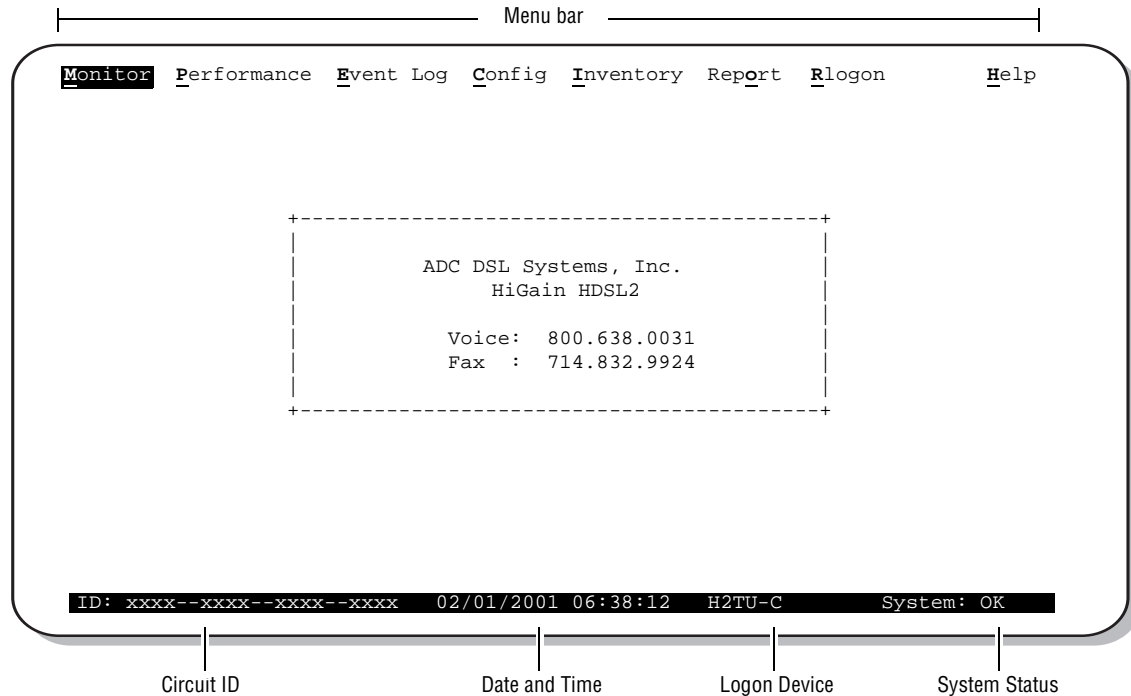

Figure 4. Logon Screen
- Use a maintenance terminal, such as an ASCII terminal or a PC running terminal emulation software, connected to the H2TU-C craft port or an HMU craft port to access the maintenance screens. Figure 4 on page 14 shows the maintenance screen. This provides full access to all H2TU-C status, history, inventory, and provisioning screens.
To select a menu from the HiGain HDSL2 logon screen, shown in Figure 4 on page 14, do one of the following: